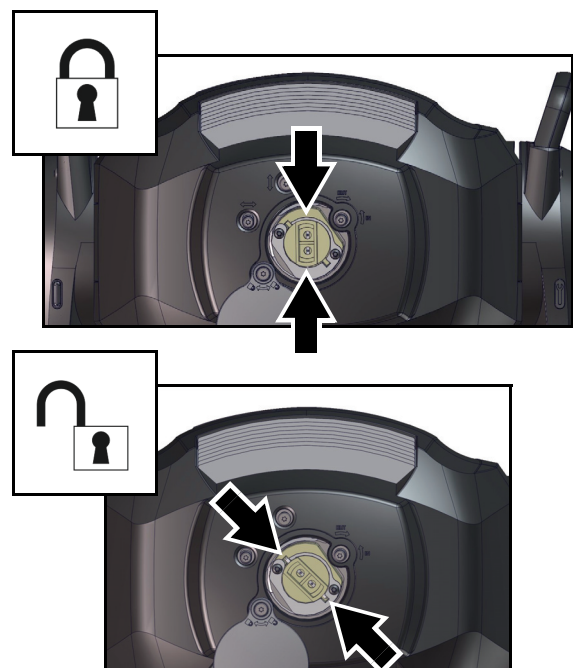

Figure 9: Lamp lock / unlock
4. See Figure 9. Grasp the ceramic lamp base, twist it 45° counterclockwise to release it, then remove the lamp gently from the fixture.